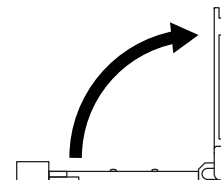

Fig. 39
2. The SIM holder is hinged and will open out to the right, see **Fig.39**.